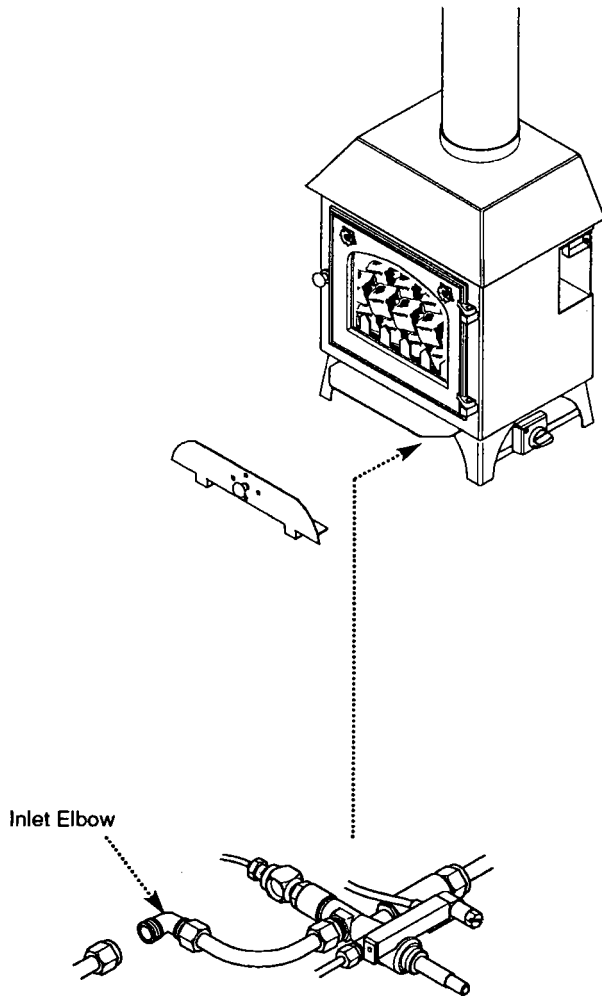

Fig. 5
2. The inlet elbow of the stove will accept 8mm OD tubing (Fig. 5).